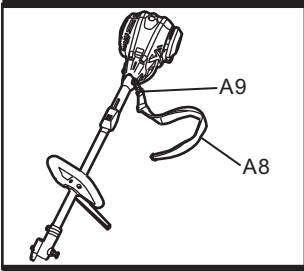

Fig. 11a
- 1). To remove the harness from the loop, open the securing clip (A9). (See Fig. 11a)